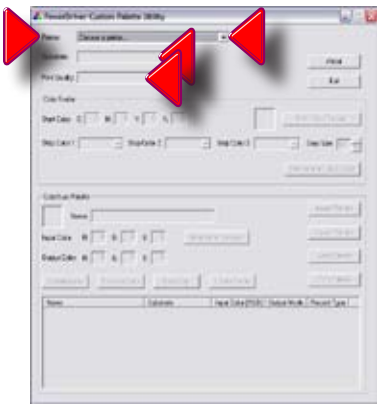

Figure 1
- At the bottom of the window, click the **Custom Palette Button**; this will open the **Custom Palette Utility** window. (Figure 1)